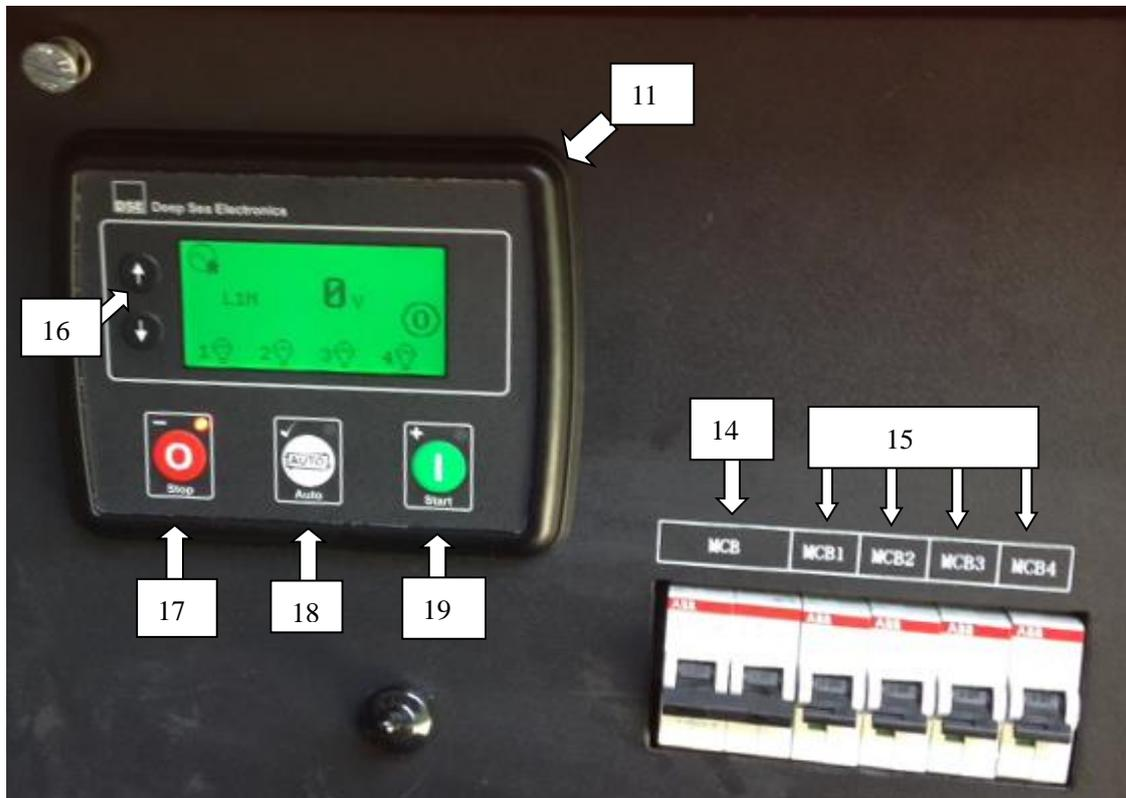

Figure 2
- **Please lock the stabilizer legs horizontally before travelling (Fig.2) in order to prevent the rear two stabilizer legs from touching the ground and affecting travel.**
(Fig. 2)